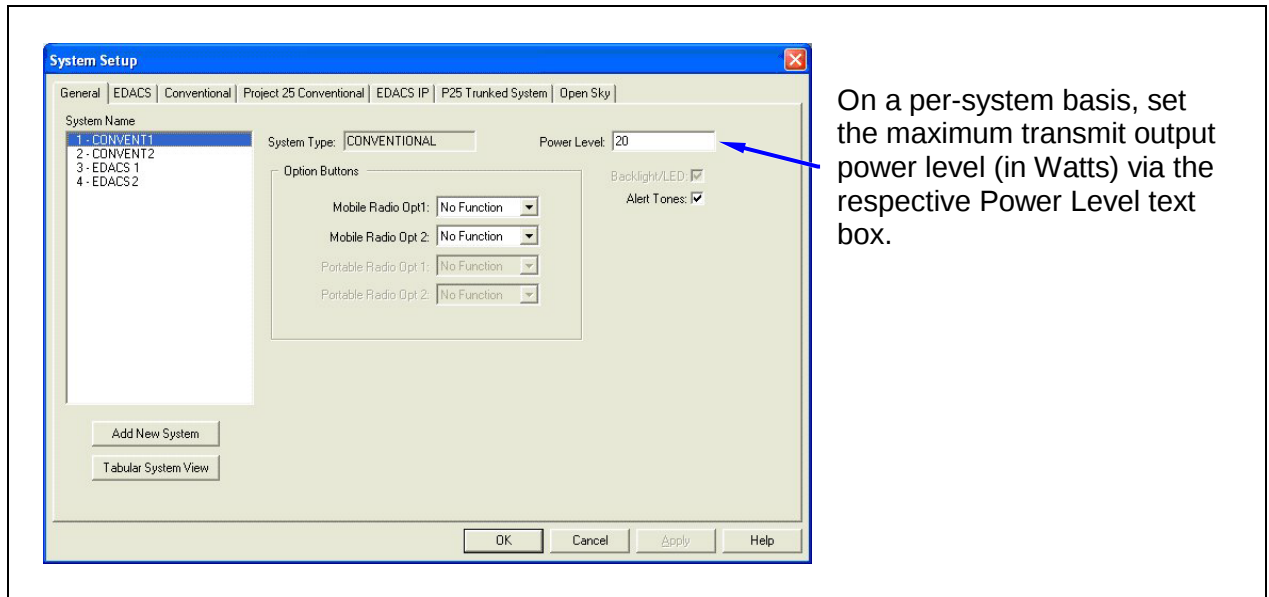

Figure 15-1: Setting Maximum RF Output Power Level via RPM's System Setup Dialog Box
1. Connect the radio's DB-9 serial port connector to a Personal Computer (PC) that has a terminal application installed, such as Microsoft Windows HyperTerminal. To make this connection, use cable MAMROS0055 (6 feet), cable CA-013671-010 (10 feet) or cable CA-013671-020 (20 feet). Also, if the utilized PC is not equipped with a DB-9 serial port connector, the use of a suitable adapter will be required, such as USB-to-RS-232 Adapter Cable CN24741-0001.
4. In the Personality Data Tree, double-click Systems to open the System Setup dialog box. Figure 15-1 shows a typical dialog box.